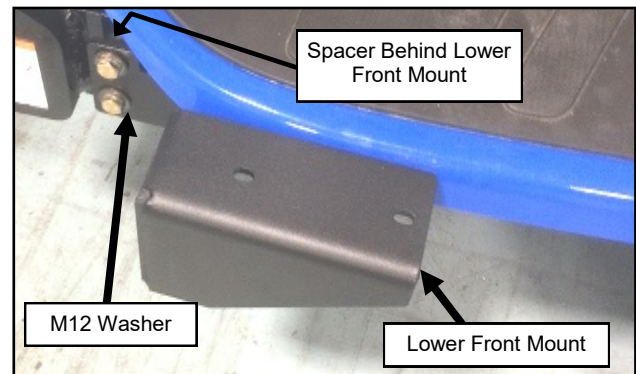

Fig. 6.1 (Lower Front Mount, Left)
- 6.1 Install left side lower front mount using supplied hardware listed below. See Figure 6.1. **Note: If backhoe or No-Loader Adapter Kit is installed, 1/2" spacers are not required.**